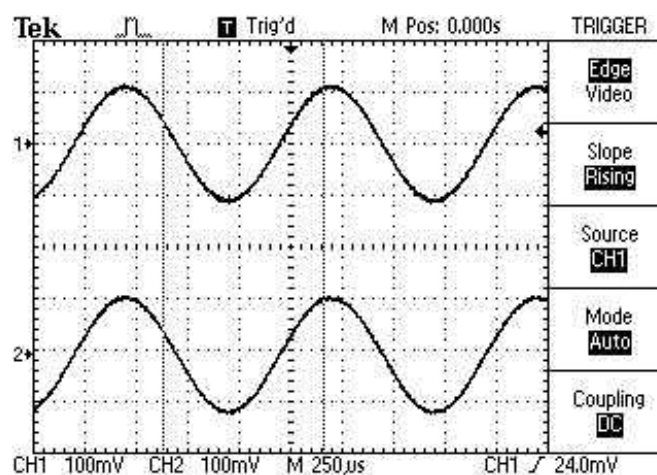

Figure 4
- Using the buttons on the right side of the LCD screen, choose(see Figure 4):